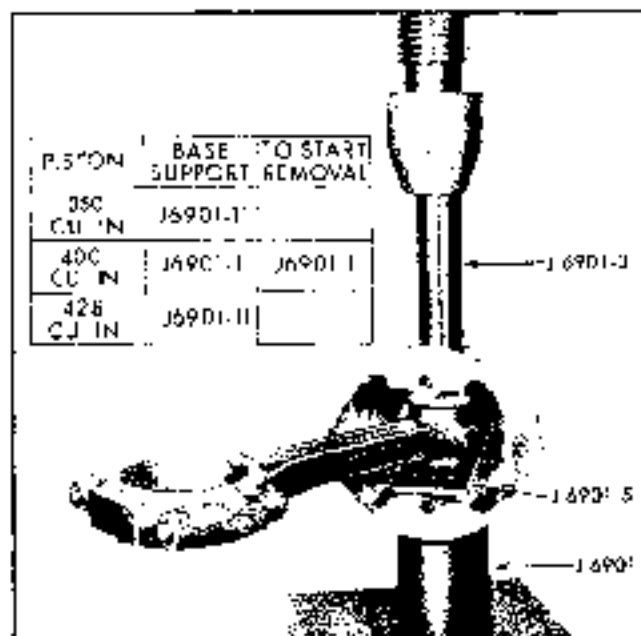

Fig. 6-122 Installing Piston Pin
1. Place pilot plunger and spring in the support base to be used as a pilot end stop. See Fig. 6-122 insert for correct base support and pilot plunger for type pistons being serviced.
4. Place tool J 6901-3 in piston pin and press pin into piston and connecting rod (Fig. 6-122) until piston pin bottoms against plunger of tool J 6901. Piston must turn freely on pin. If piston binds on pin, disassemble, hone piston pin bosses slightly and reassemble.